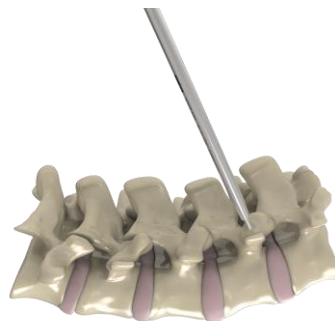

Figure 1
- Locate the desired entry point in the pedicle and perforate the cortex with the Awl (39-SP-0001) (Figure 1).